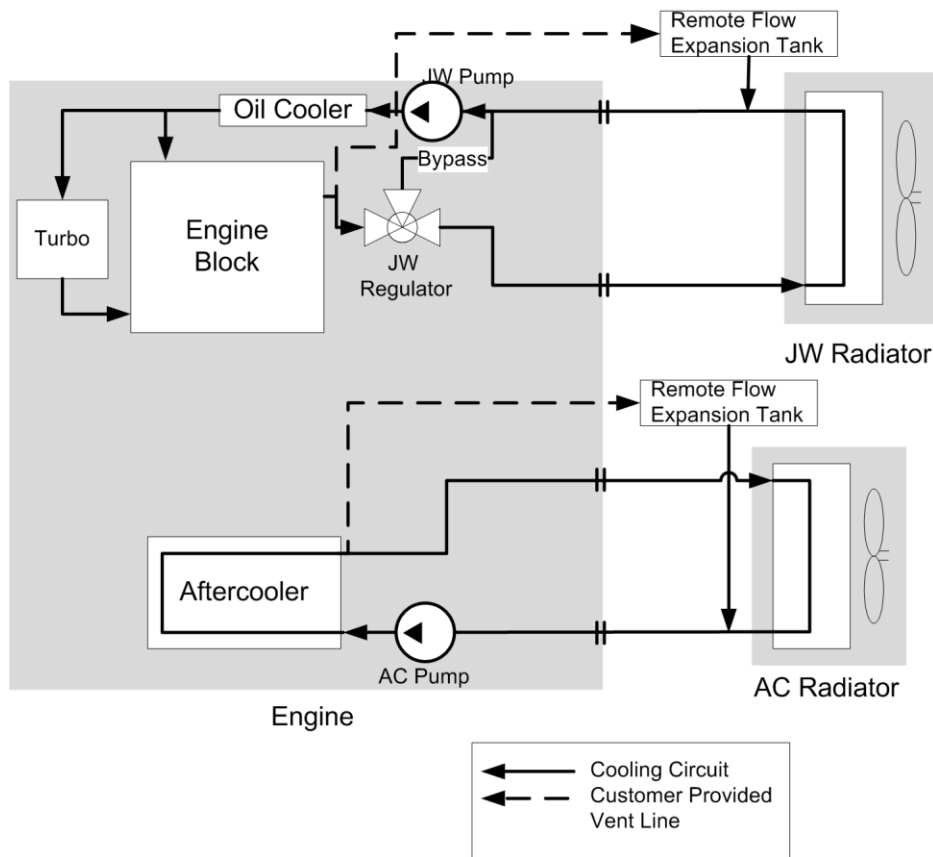

Figure 36: G3300 TA cooling system schematic.
- G3300 TA, (Figure 36 on Page 51).